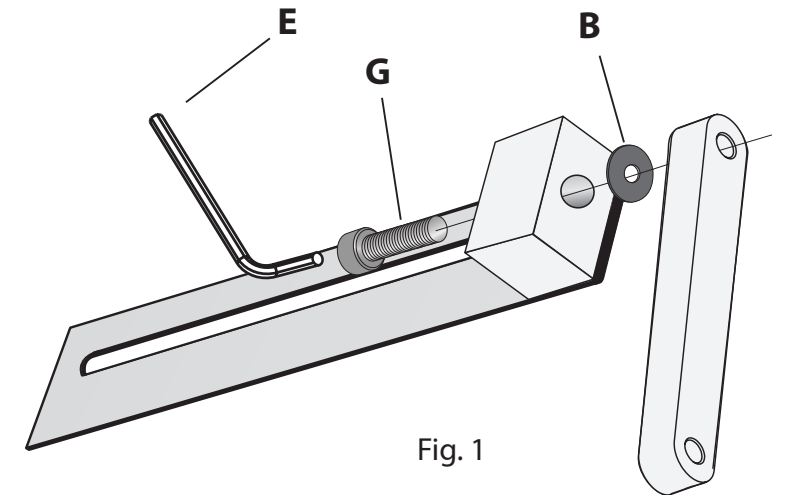

Fig. 1
Attach vertical arms (3) assembled with aluminum plate to extender arm (2) Using bolt (G) and Nylon Washer (B). 6mm Allen Key (E) and tighten. (May need to loosen bolts later to adjust for depth but tighten before final assembly). (See Fig.1)